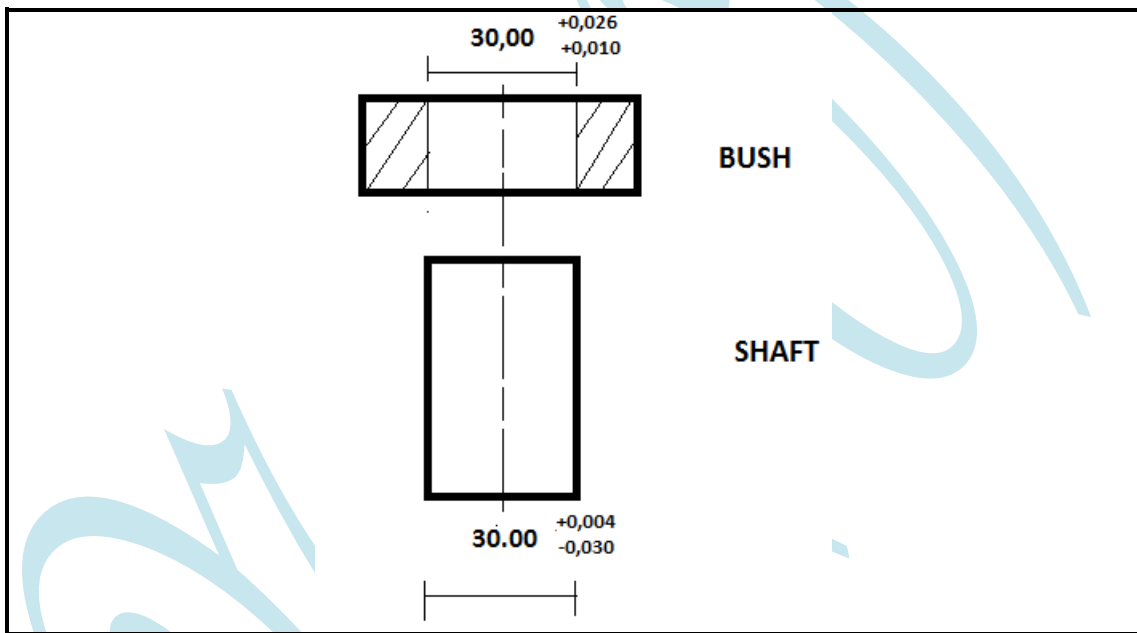

FIGURE 1
3.1 FIGURE 1 below shows two components machined according to the given dimensions.